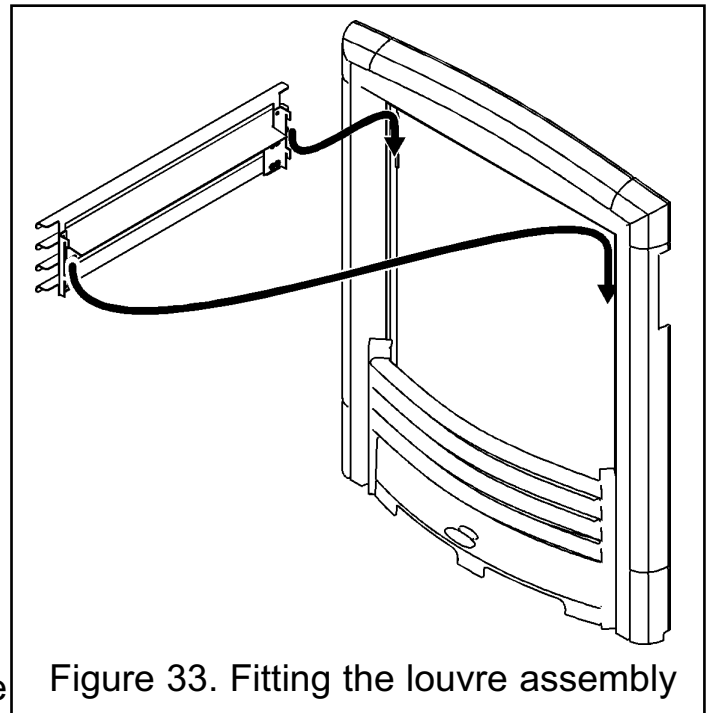

Figure 33. Fitting the louvre assembly
v) **Petrus models only** - Locate the louvre assembly onto the brackets at the top of the fascia casting (See figure 33). **Please take care when attaching or removing the louvre assembly to avoid marking the fascia surface.**